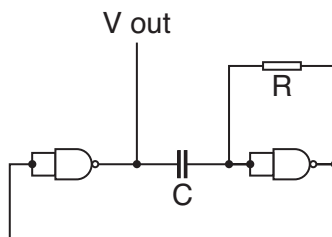

Fig. 1
(a) The circuit in Fig. 1 was chosen.
- (i)** Name the logic gates shown in Fig. 1. [1]
- (ii)** Name a logic gate that could directly replace those shown in Fig. 1. [1]
- (b)** When the output of the circuit in Fig. 1 was checked on an oscilloscope it was not exactly 1Hz.